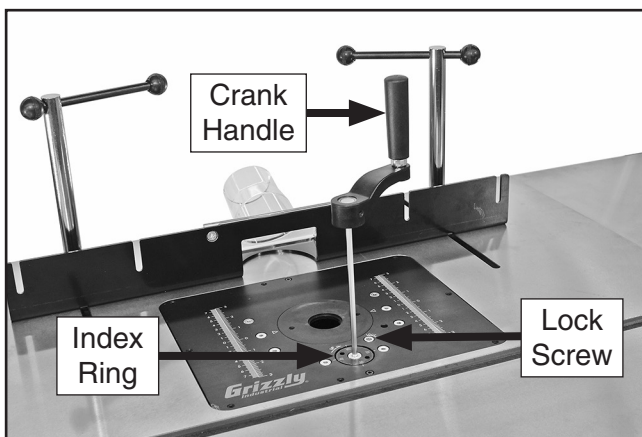

Figure 48. Lift crank handle installed in table.
2. Insert crank handle into index ring (see **Figure 48**) on mounting plate.
4. Secure height setting by turning lock screw (see **Figure 48**) clockwise until it engages rocker arm beneath mounting plate. Ensure lock screw is snug, but do not overtighten.